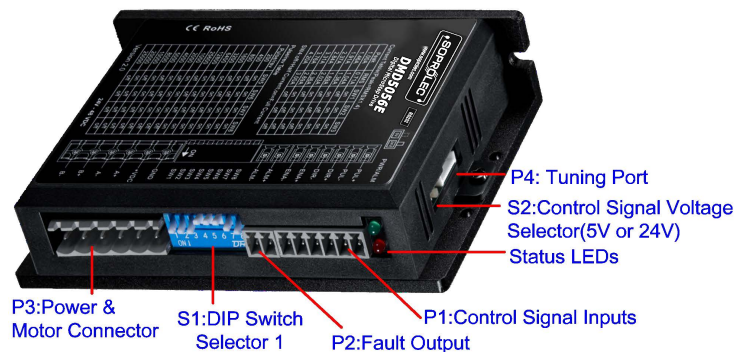

Figure 2 Connectors, DIP switches, and LED locations
PUL+	Pulse and Direction Connection: (1) Optically isolated, high level 4.5-5V or 24V, low voltage 0-0.5V (2) Maximum 200 KHz input frequency (3) The width of PUL signal is at least 2.5 μ s, duty cycle is recommended 50% (4) DIR signal requires advance PUL signal minimum 5 μ s in single pulse mode (5) The factory setting of control signal voltage is 24V, must need to set S2 (figure 2) if it is 5V
The P4 connector in Figure 2 is a RS232 communication port for PC connection. Refer to the following pin definitions. It is just used to modify parameter, not for equipment control because neither precision nor stability is sufficient. If you need a field bus drive, use a SOPROLEC RS485 or EtherCAT type drives
The DMD5056E can accept can accept differential or single-ended control signals (pulse, direction, and enable) in open-collector or PNP connection through the P1 connector (figure 2). It is recommend to add an EMI line filter between the power supply and the drive to increase noise immunity for the drive in interference environments.
- (1) ENA signal is no-connected as default;
- (2) Control signal amplitude is 24 V as default. If it is 12 V, please set the S2 (Figure 2) selector switch to 5 V first, then connect 1K Ω resistor; If it is 5V, please set the S2 to 5V.
The second 1-bit selector is located on the top (S2 in figure 2), used to configure the voltage of control signals. For the safety of optically coupled, the factory setting is 24V, which no need to connect 2K resistors like the old drives, making it easier to use. When the voltage of the control signal is 5V, the S2 must be set to 5V, otherwise, the motor won't work.